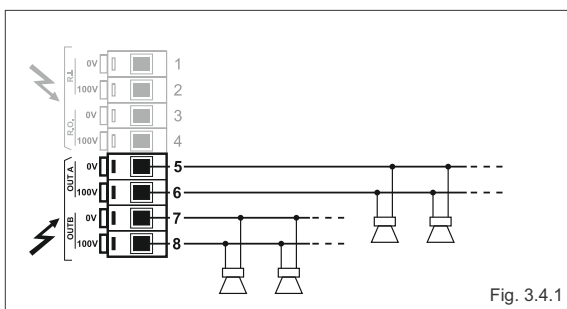

Fig. 3.4.1
A terminal strip (10) is available for connection to the loudspeaker lines – see Fig. 3.4.1.